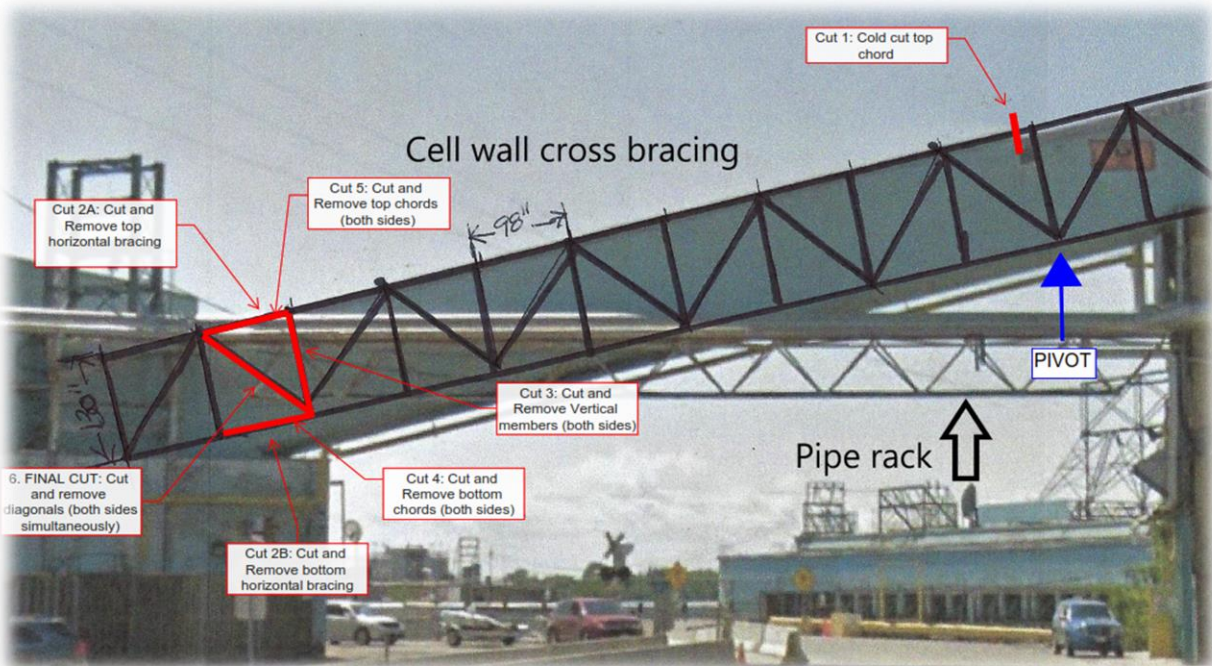

Figure 1: Overhead Gallery Demolition Sequence
- VI. Cut 1: Cold cut top two chords at upper cut line (see Figure 1).
- a. Cut 2: Horizontal Bracing (top and bottom; see Figure 1),
- b. Cut 3: Vertical Members (both sides, see Figure 1).
- X. Cut 4: JD850 and PC800 cut Bottom Chords (both sides; see Figure 1).
- XI. Cut 5: JD850 and PC800 cut Top Chords (both sides; see Figure 1).
- XII. Cut 6 (Final Cut): JD850 and PC800 cut diagonal members simultaneously (See Figure 1).